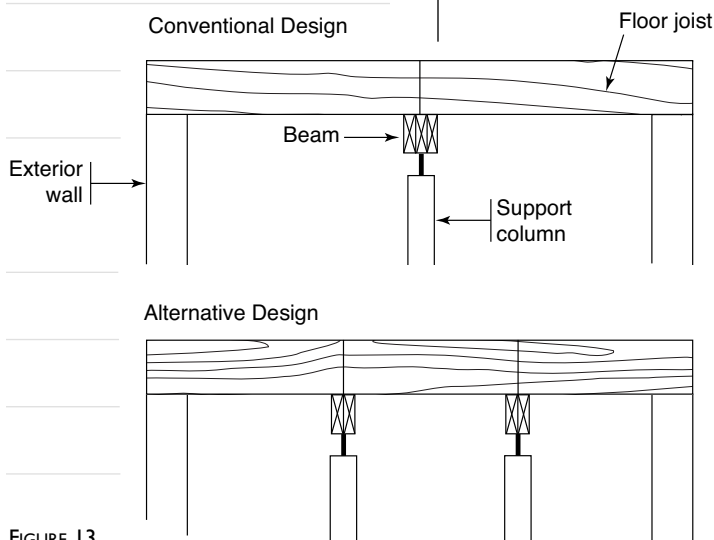

FIGURE 13
- ◆ Reducing the distance between supports will reduce the span of the structural members and stiffen the floor system. In a typical floor system with a beam at midspan, adding an additional support will result in sizable reductions in floor vibration (see Figure 13).